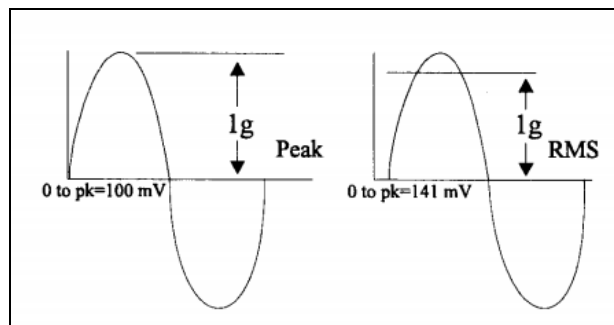

Figure 3: Peak vs RMS Selection with 100 mV/g Accelerometer
- **Peak/RMS Selection:** If a 100 mV/g sensor is on the shaker table, and the unit is in peak mode, then the output is 100 mV/g. If the switch is set to RMS, then the output is 141 mV. See Figure 3.